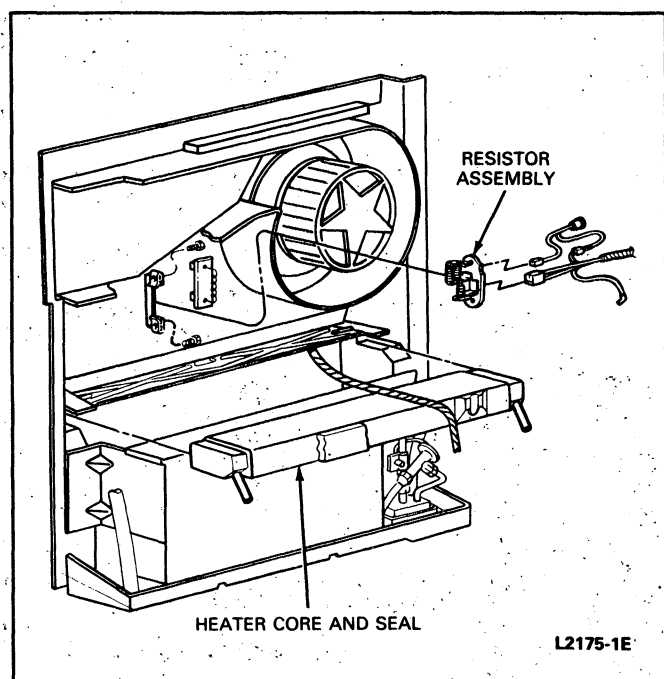

FIG. 17 Evaporator Core Installation
6. Remove four screws retaining evaporator core and mounting bracket to auxiliary case assembly (Fig. 17).
7. Remove evaporator core, expansion valve and core mounting plate from case assembly (Fig. 17).